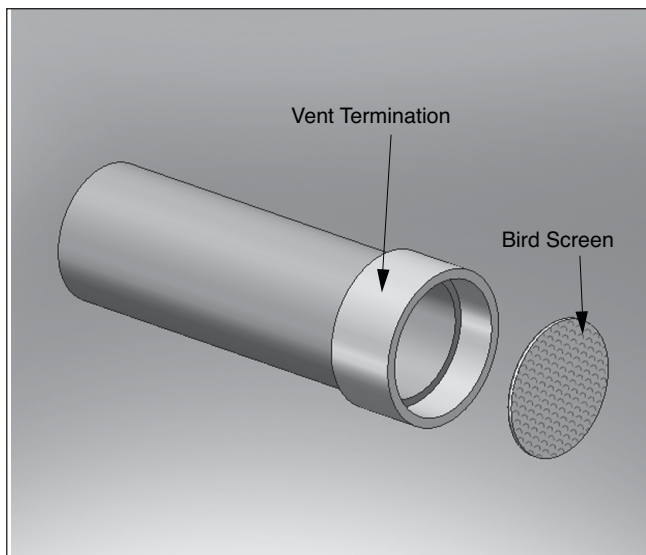
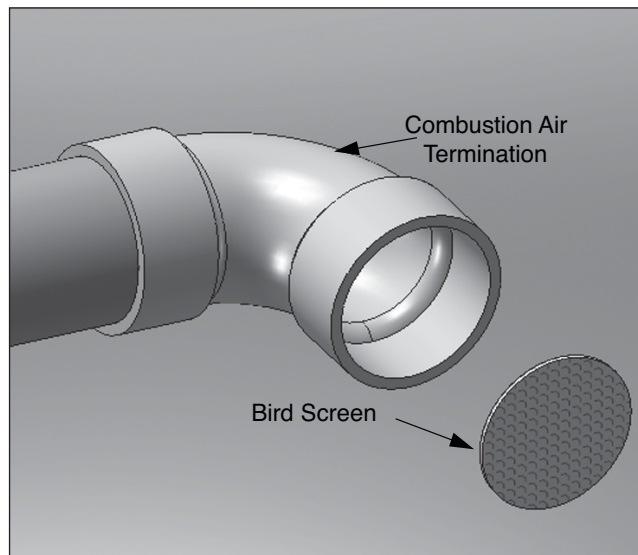

Fig. 9 - Sidewall Vent Bird Screen Installation
Fig. 10 - Sidewall Combustion Air Bird Screen Installation
1. The vent and combustion air terminations must include a factory supplied "bird screen" installed as shown in *Fig. 9* and *Fig. 10 on page 14*.
1. The vent and combustion air terminations must include a factory supplied "bird screen" installed as shown in *Fig. 3 on page 10* & *Fig. 10 on page 14*.